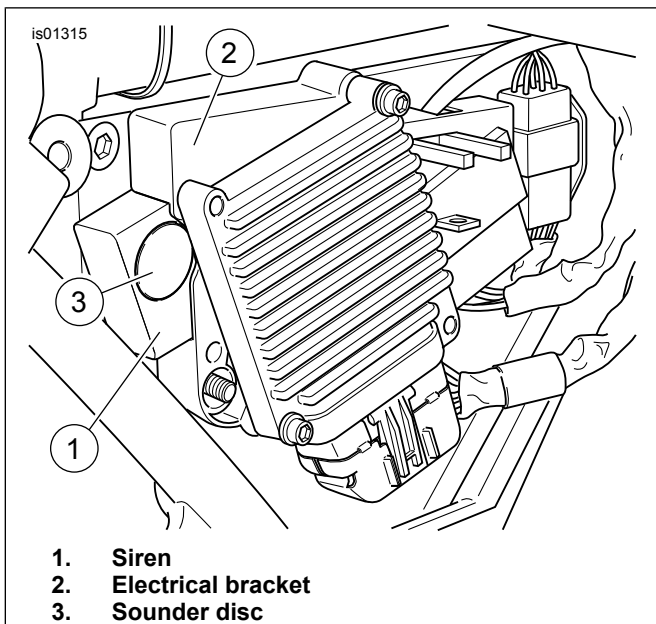

Figure 17. Siren and Electrical Bracket Installed (2002-2007 Touring Models)
8. See Figure 17. Install electrical bracket assembly with siren back onto studs on side of battery box. Install two flange nuts onto studs and tighten.